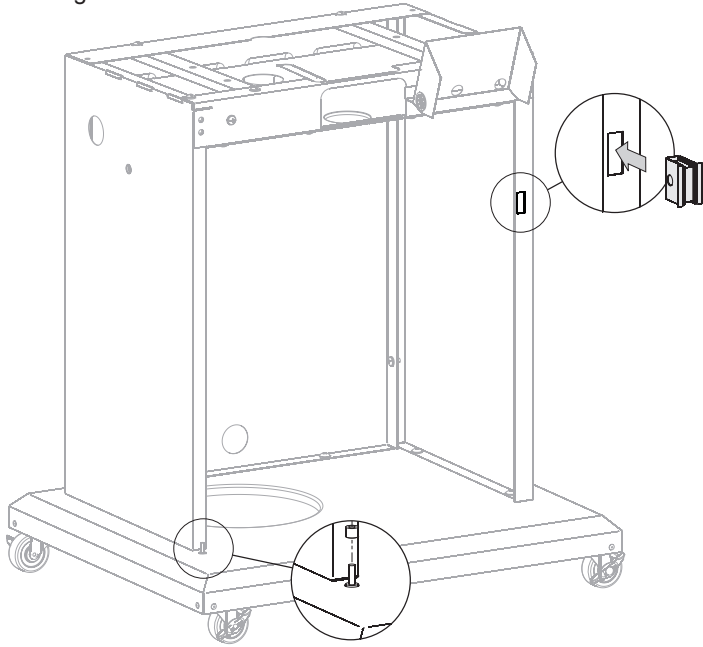

Figure 9
14. Place plastic spacer on peg on cart base. See Figure 9.
16. Snap magnet into the hole provided in the Right Panel. See Figure 9.